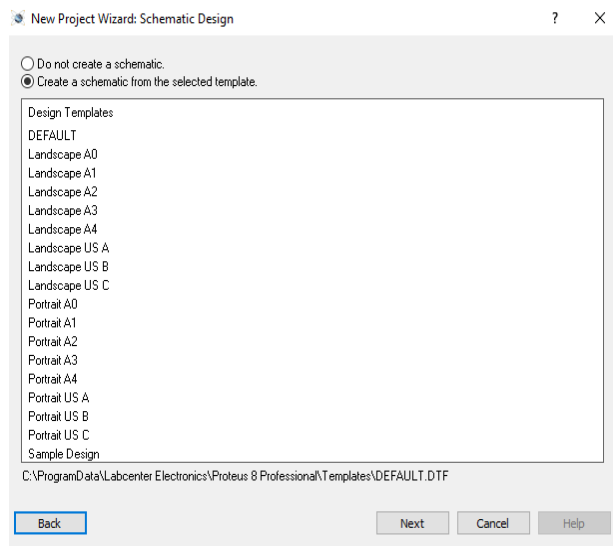

Figure 3: New Project Wizard: Schematic Design
Step 4: Click on a circle that says create a schematic from a selected template, and then select DEFAULT and click on Next (figure 3).